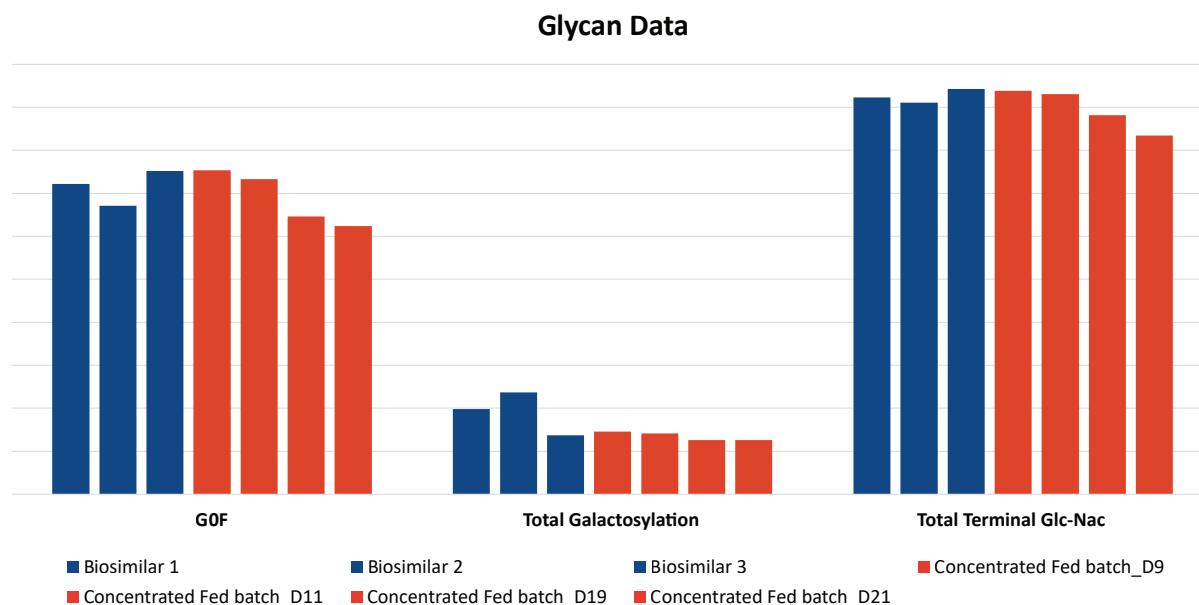

Figure 9: Glycan profile comparison across biosimilars and intensified fed-batch samples.
- Product Quality:** Glycan profiles and post-translational modifications remained consistent with biosimilar standards, ensuring regulatory compliance (Figure 9).